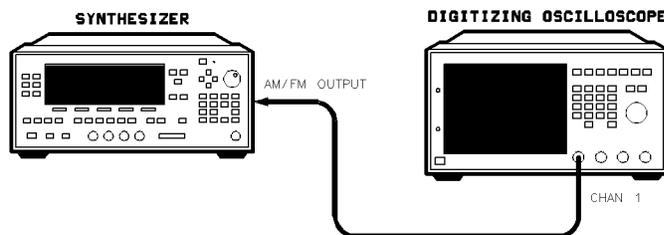

Figure 3-39. Modulation Generator Flatness Adjustment Setup
1. Connect the equipment as shown in Figure 3-39. Preset all instruments and let them warm up for at least one hour.